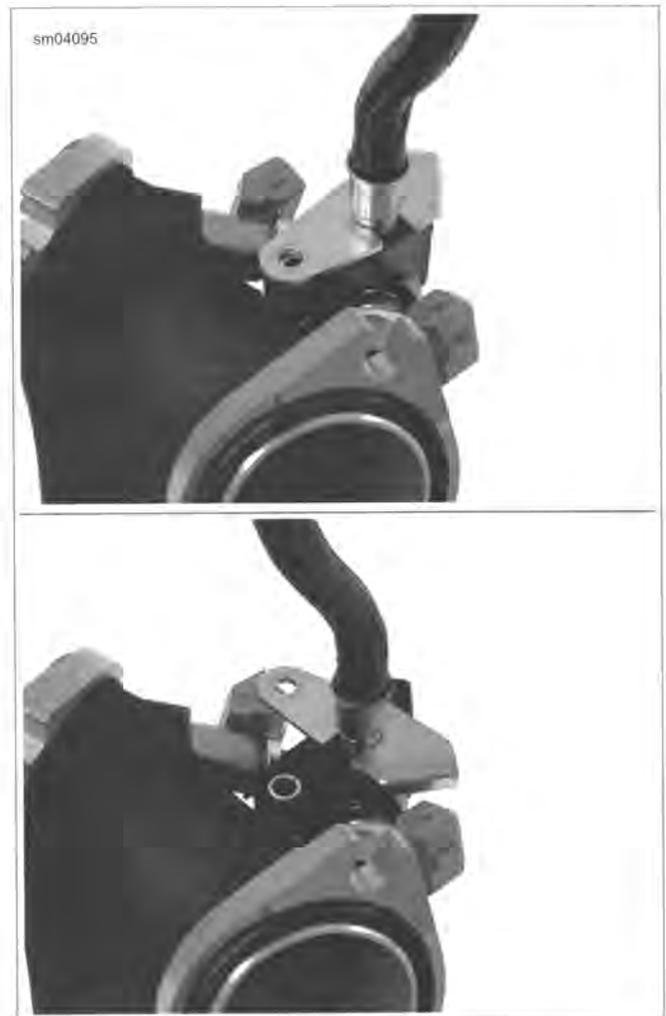

Figure 4-36. Rotate Fuel Supply Tube Clamp
3. See Figure 4-36. Rotate fuel supply tube clamp 90 degrees clockwise. Remove from groove in fuel supply tube fitting.